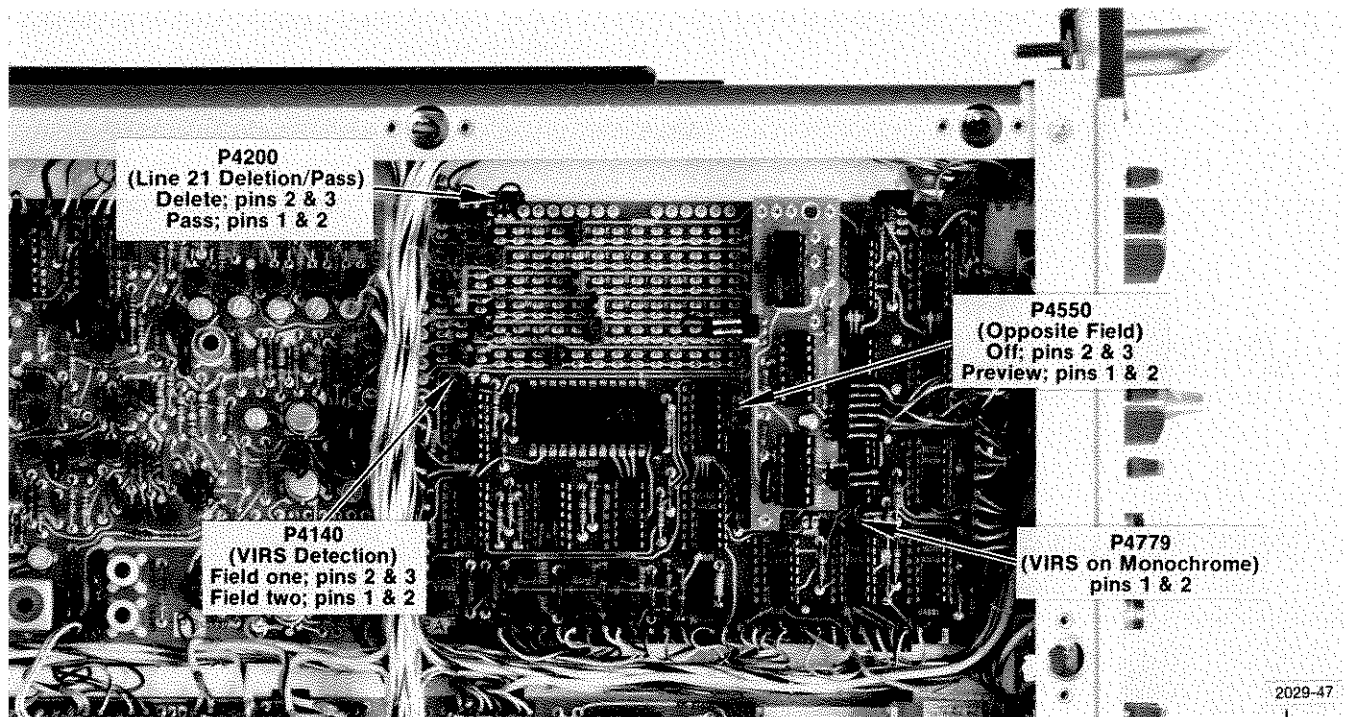

Fig. 1-15. VITS and FF circuit board location of VIRS Detect, Opposite Field Preview, VIRS on Monochrome, and Line 21 Delete plugs.
As factory-connected, any incoming signal on line 21 of either field will be passed. To delete the first half-line of line 21, field one (1), and the full active line time of line 21, field two (2); change the connector on pins one (1) and two (2) of P4200 to pins two (2) and three (3) (see Fig. 1-15).
The 147A and 149A will not normally insert the VIR signal on a monochrome program signal. To insert the VIR signal in the presence of a monochrome program signal, move the jumper on P4779 from pins two (2) and three (3) to pins one (1) and two (2) (see Fig. 1-15).
The position of the connector on P4140 (see Fig. 1-15) determines which field of the incoming signal is detected for VIRS. Field one detection is obtained by connecting between pins two (2) and three (3). Field two detection is obtained by connecting between pins one (1) and two (2).